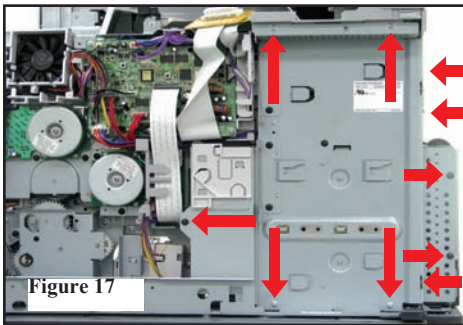

Figure 17
17. Remove rear left metal PFC shield, 10 screws. (Figure 17)